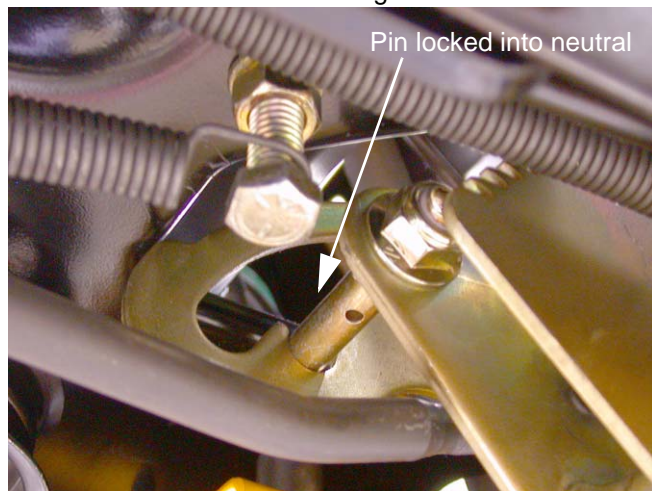

Figure 25.1
25.1. Set the parking brake. The cam in the parking brake mechanism will lock the pin on the pedal shaft into neutral. See Figure 25.1.